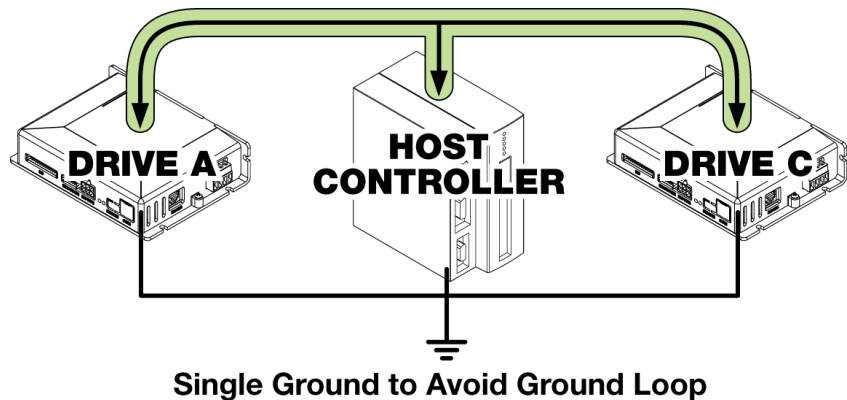

Figure 2: This illustration shows the proper way to install a system to best mitigate ground loop noise.
- A single-point earth ground for the entire system will help prevent ground loops from forming (see Figure 2).